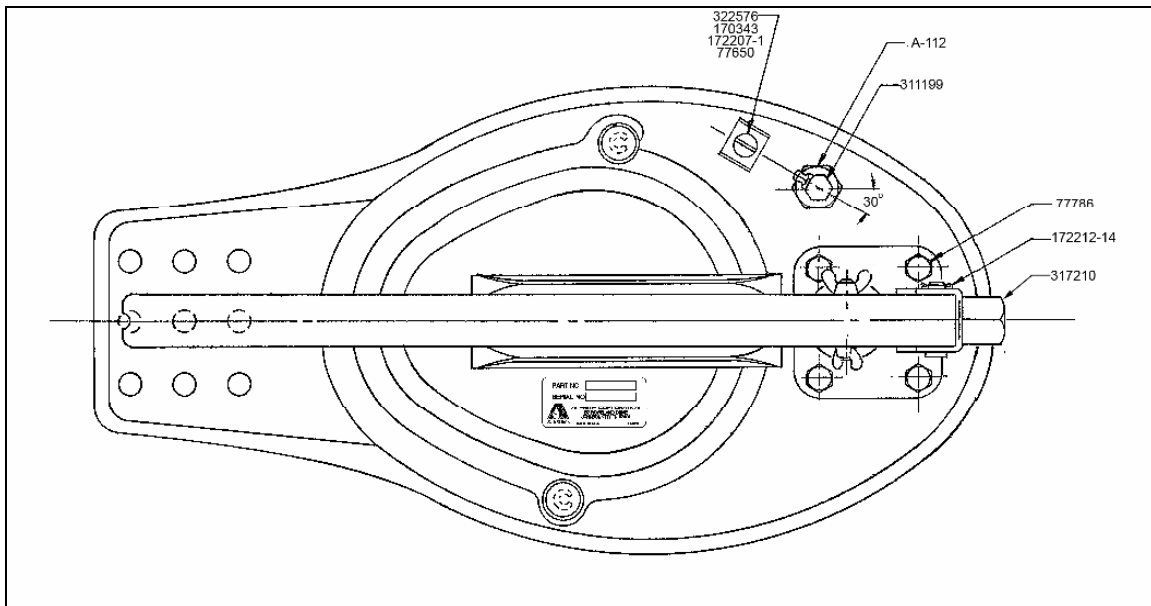

Figure 3: Model 7149-4 Bucket Pump
A-112	Bushing (Figures 3, 6, and 12)
MODEL 7149-A4 (Figures 3 and 4):
MODEL 7149-D4 (Figures 3 and 6):
1. Unthread the 1/8" NPT hydraulic fitting 311199 from bushing A-112 (**Figure 3**). Thread angle body 43706 into bushing and pin type fitting A-336 into angle body.
MODEL 7149-F4 (Figures 3 and 8):